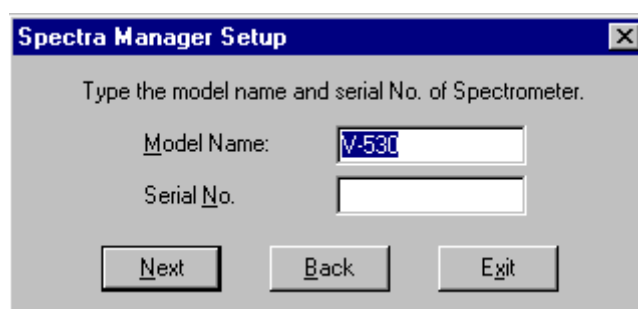

Figure 10.13 Model name and serial number input screen
- (5) Click the <Continue> button. The screen shown in Fig. 10.13 appears.